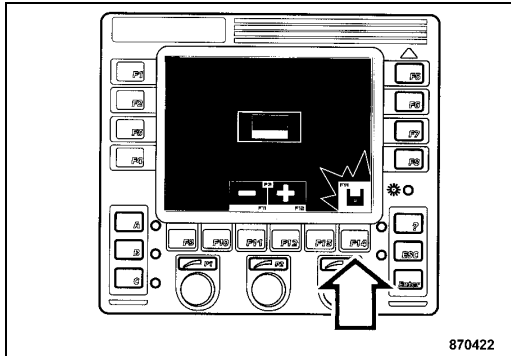

Fig. 88
- Press "F14" (Fig. 88) to save the selection.